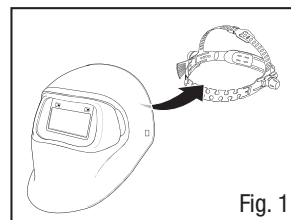

Fig. 1
1. Follow Figs. 1-4, to properly remove and replace the 3M™ Speedglas™ Headgear 100 with the 3M™ Speedglas™ Hardhat Adapter 100 (part number 07-0014-00NR) as shown in Figs. 1 and 2.